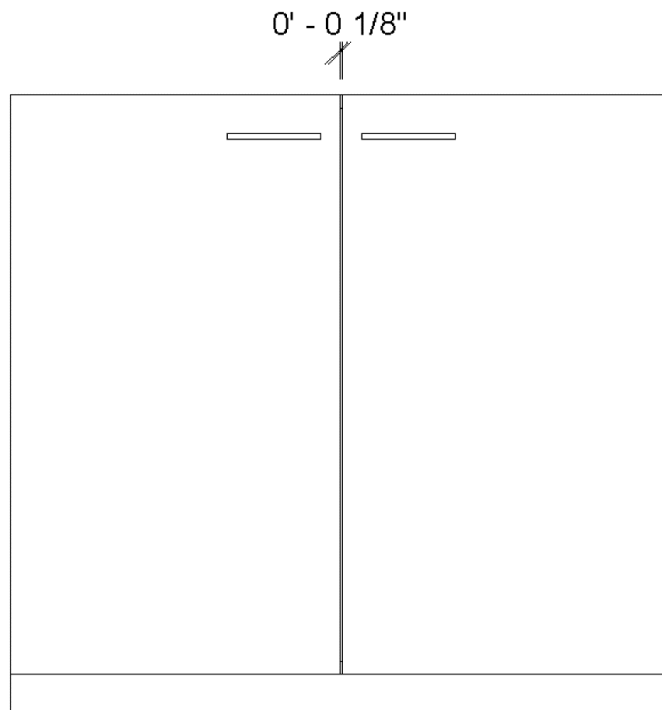

Figure 1. Office Cupboard front elevation
- Create a series of formulae to control the cupboard doors maintaining a $1/8"$ gap as shown in figure 1.